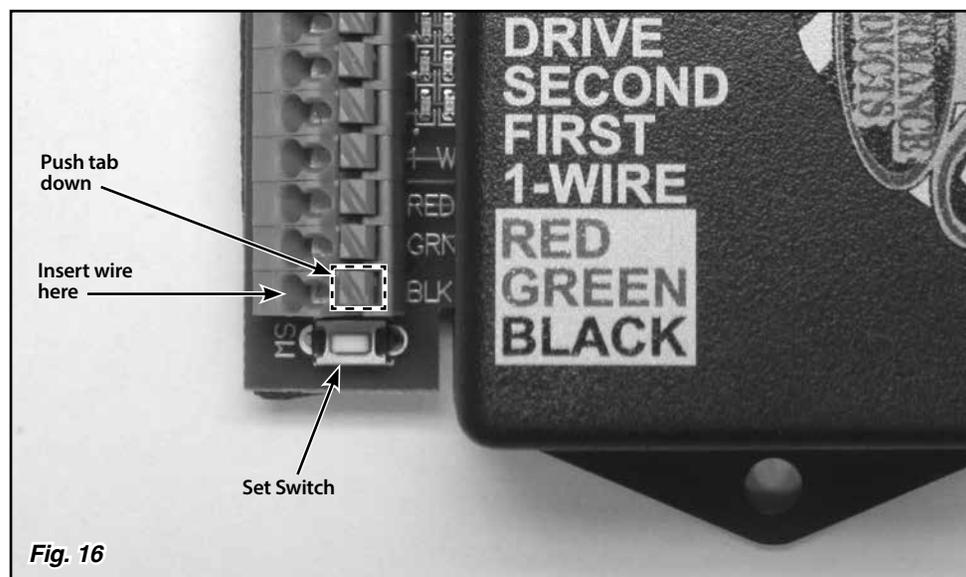

Fig. 16
The sensor has a 10 foot long gray cable attached to it. This cable contains 3 wires which connect to the decoder box. To connect the wires to the decoder box, push down on the tab to insert the wire into the terminal on the decoder box. Fig. 16 Connect the red wire to the terminal marked "RED". Connect the green wire to the terminal marked "GREEN". Connect the black wire to the terminal marked "BLACK".
**Step 2:** Press and hold the set switch. **Fig. 16** Turn the ignition key on while holding the set switch down. Then, release the set switch.